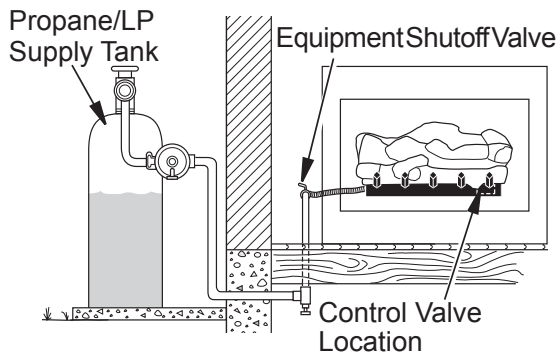
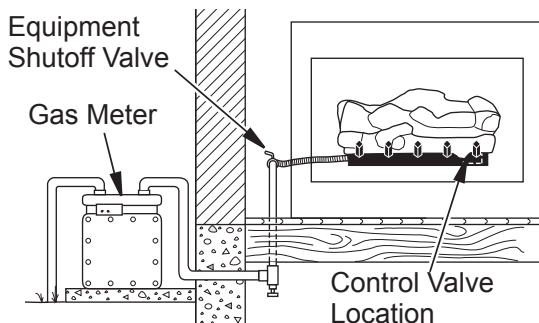

Figure 15 - Checking Gas Joints (Propane/LP Only)
Figure 16 - Checking Gas Joints (Natural Gas Only)
3. Check all joints from gas meter to equipment shutoff valve for natural gas or propane/LP supply to equipment shutoff valve for propane/LP (see **Figure 15** or **Figure 16**). Apply noncorrosive leak detection fluid to all joints. Bubbles forming show a leak.
4. Check all joints from gas meter to equipment shutoff valve for natural gas or propane/LP supply to equipment shutoff valve for propane/LP (see **Figure 15**, or **Figure 16**). Apply noncorrosive leak detection fluid to all joints. Bubbles forming show a leak.